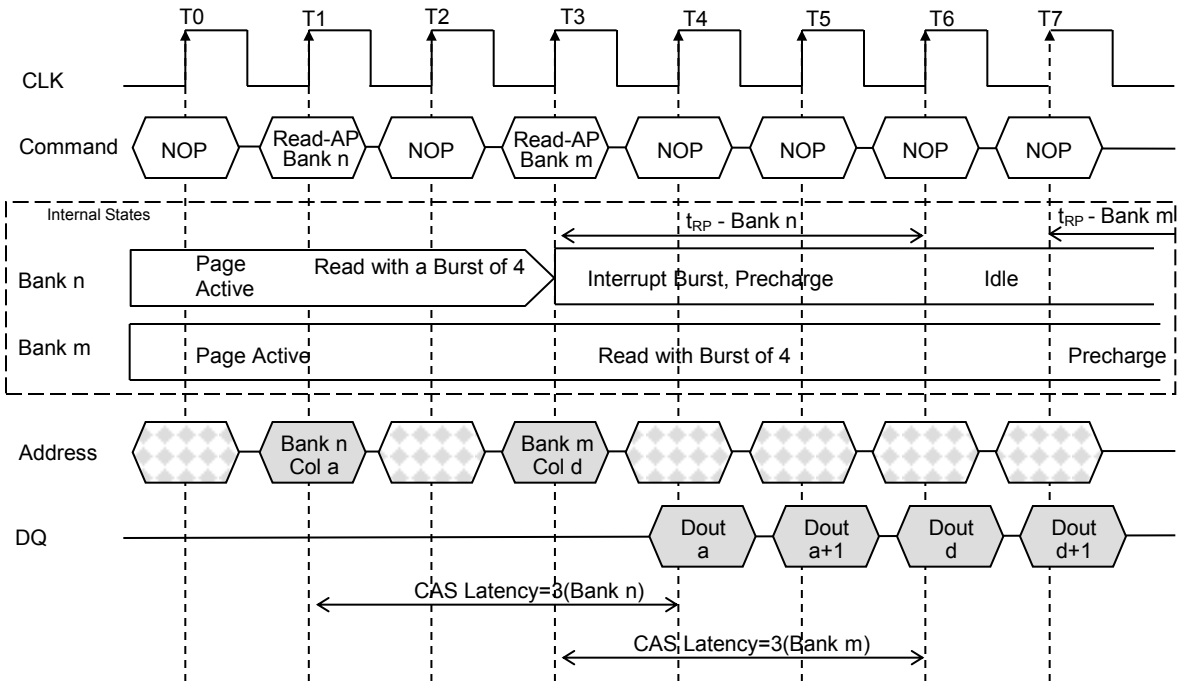

Figure 27. Read with Auto Precharge Interrupted by a Read(CAS Latency =3)
1. Interrupted by a Read(with or without auto precharge): A read to bank m will interrupt a Read on bank n, CAS latency later. The precharge to bank n will begin when the Read to bank m is registered. (Figure 27.)